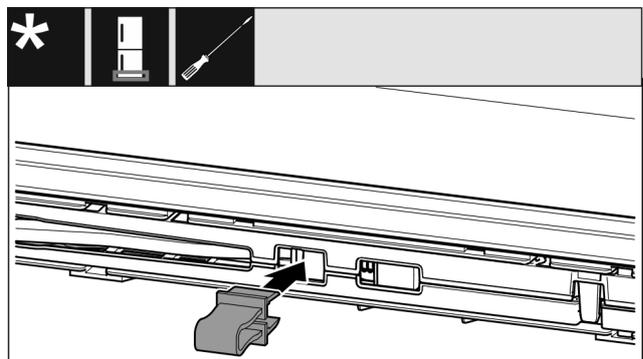

Fig. 17
- ▶ Latch safeguard into opening. (see Fig. 17)